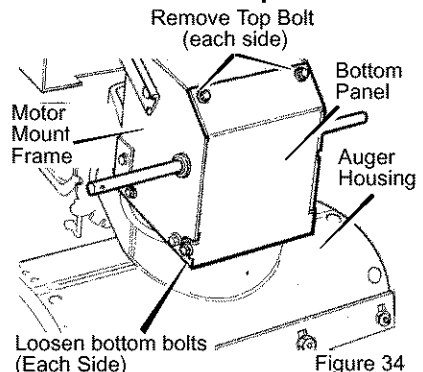

Figure 34
- Remove the **bolts** on each side of the **bottom panel**. See Figure 34.
6. Install the **bottom panel**. See Figure 34.
3. Remove the **top bolts** on each side of the **bottom panel**. See Figure 34.
- Install the **bottom panel**. See Figure 34.